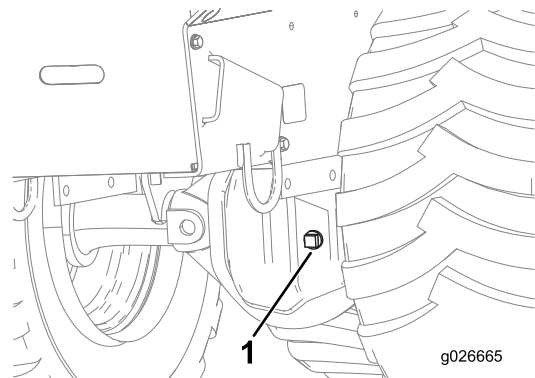

Figure 34
2. Remove the fill plug from 1 of the axle differentials (Figure 34).